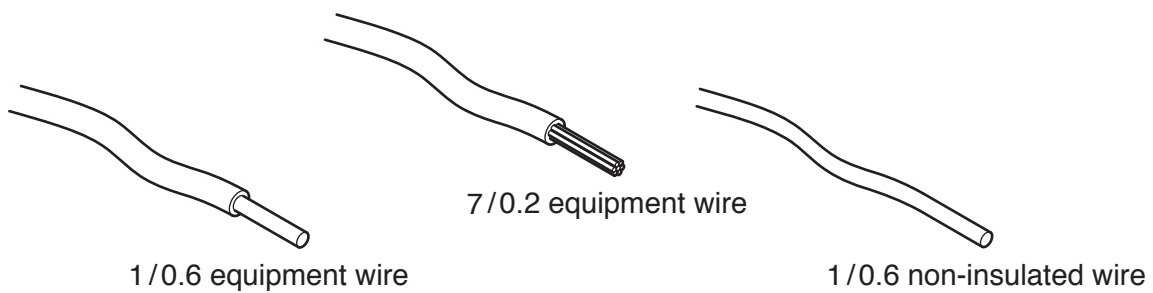

Fig. 17
- (b) Fig. 17 shows three types of connecting wire that could be used to connect a switch to a circuit board.